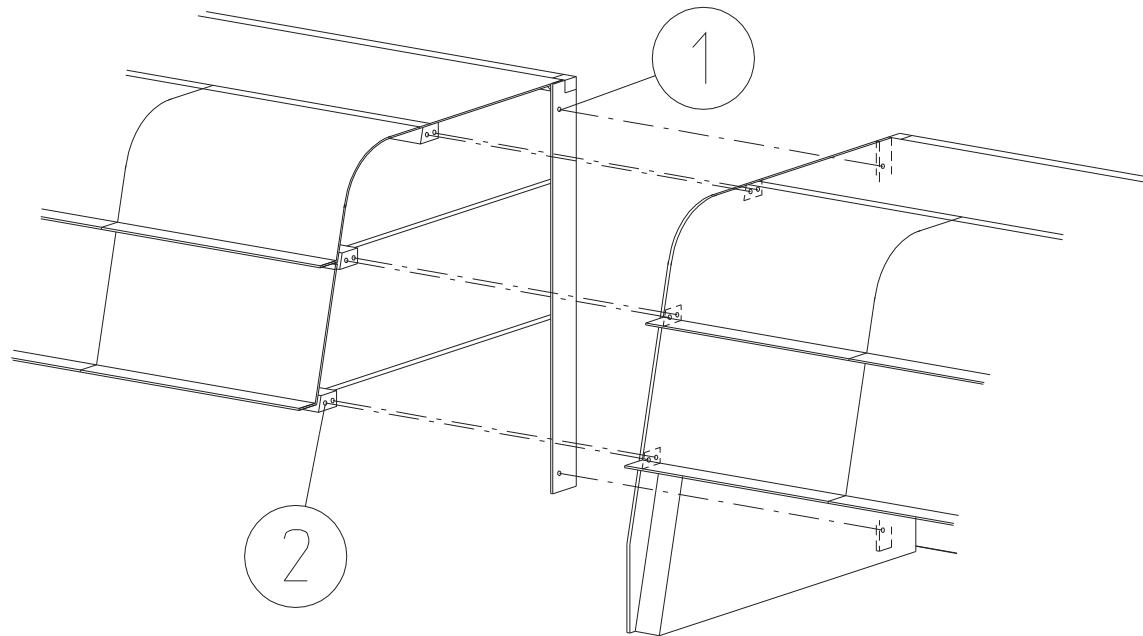

Figure 5.
- Screw the bars of the inter-connecting counters (fig.5, pos.2) to the end panel of the free-standing counter.
- Screw the frame (fig.5, pos1) of the inter-connecting counter to the frame of the free-standing counter.